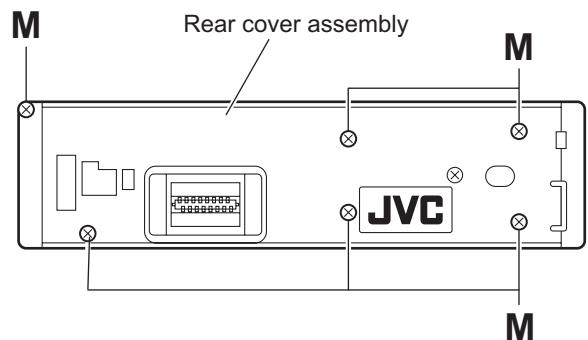

Fig.14
(See Figs.14 to 16)
- From the rear side of the front panel assembly, remove the six screws **M** attaching the rear cover assembly to the front panel assembly. (See Fig.14)